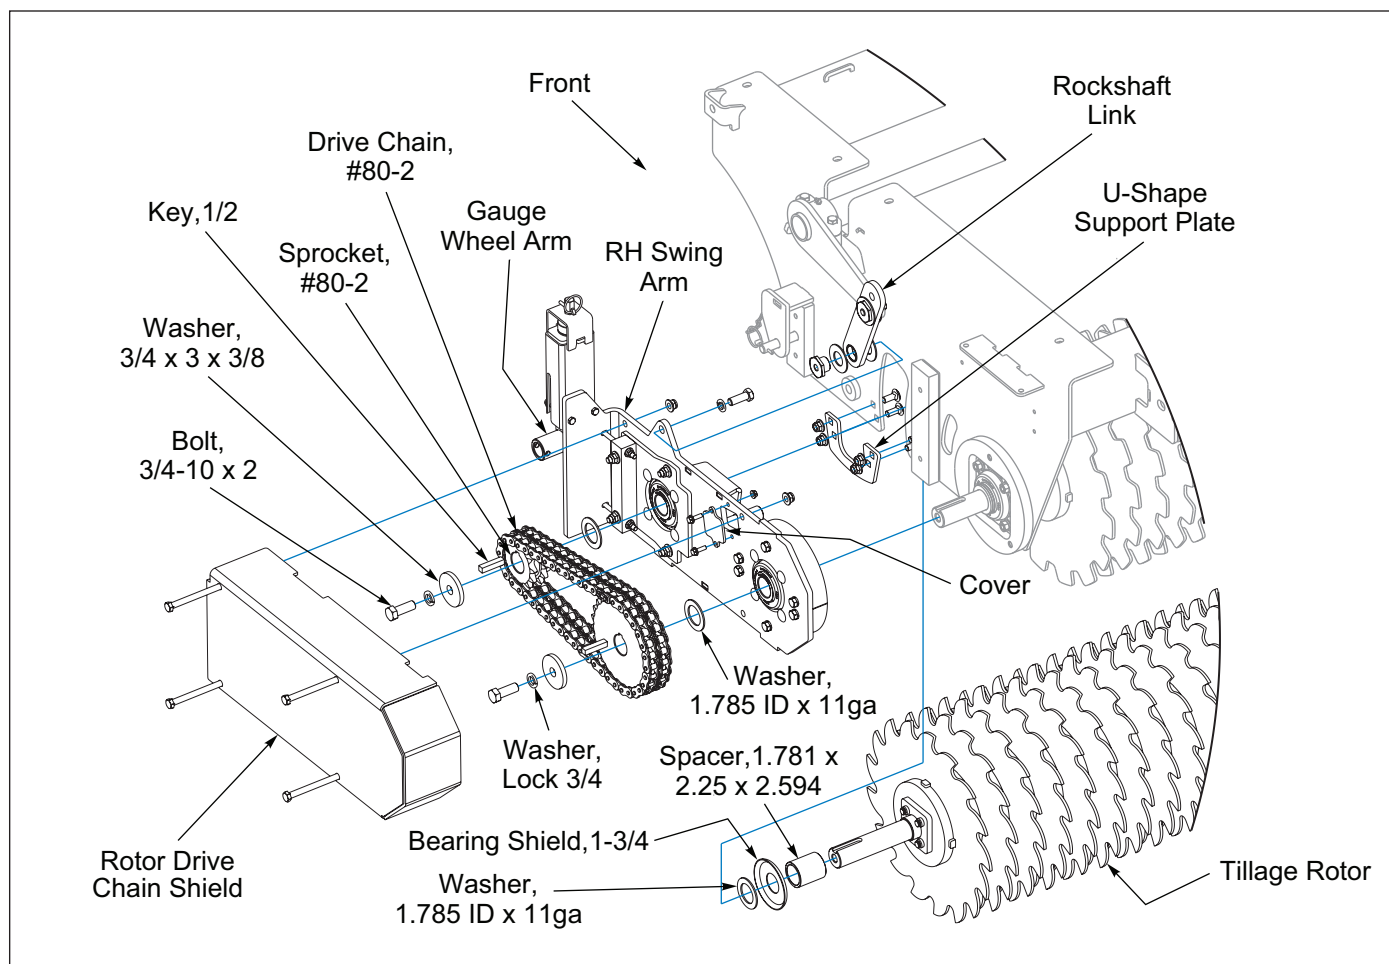

Figure 4-12: Tillage Rotor Blade Repair - LH Side
3. Relieve air out of the LH and RH Tillage Rotor Shocks and remove Rockshaft Link Bolts that attach to the Swing Arms. The Tillage Rotor Shafts will now rest on the U-Shaped Support Plate. **See Figures 4-12 and 4-13.**
14. Re-Assemble Tillage Rotor into the Frame. 1.523 Shaft is on the left and 1.776 Shaft is on the right. Raise one end of the Tillage Rotor with a floor jack and add a block. Raise the other end of the Tillage Rotor and add a block. Continue incrementally in this fashion until the Tillage Rotor is positioned inside the Frame. Mount the U-Shaped Support Plates under the Tillage Rotor Shafts and onto the Frame End Plates. **See Figures 4-12 and 4-13.** Rest the Tillage Rotor onto the U-shaped Support Plates.